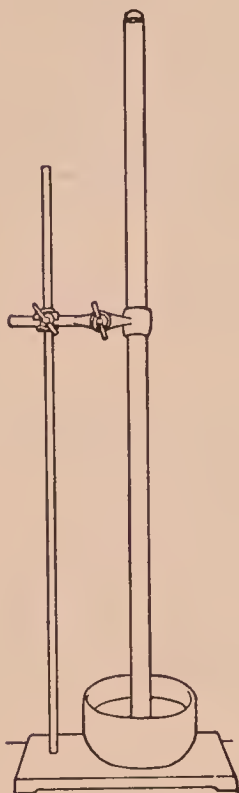

FIG. 32. — Apparatus for showing that oxygen is a constituent of water
**APPARATUS.** — As in Fig. 32. The tube is about 1 m. long and closed at one end.
Fill the tube with chlorine water, cover the open end with the thumb or finger, invert the tube, and immerse the open end in a mortar or an evaporating dish, which should be nearly full of chlorine water (Fig. 32). Clamp the tube in an upright position, and stand the whole apparatus where it will receive the direct sunlight for several hours. Bubbles of gas will collect at the top.